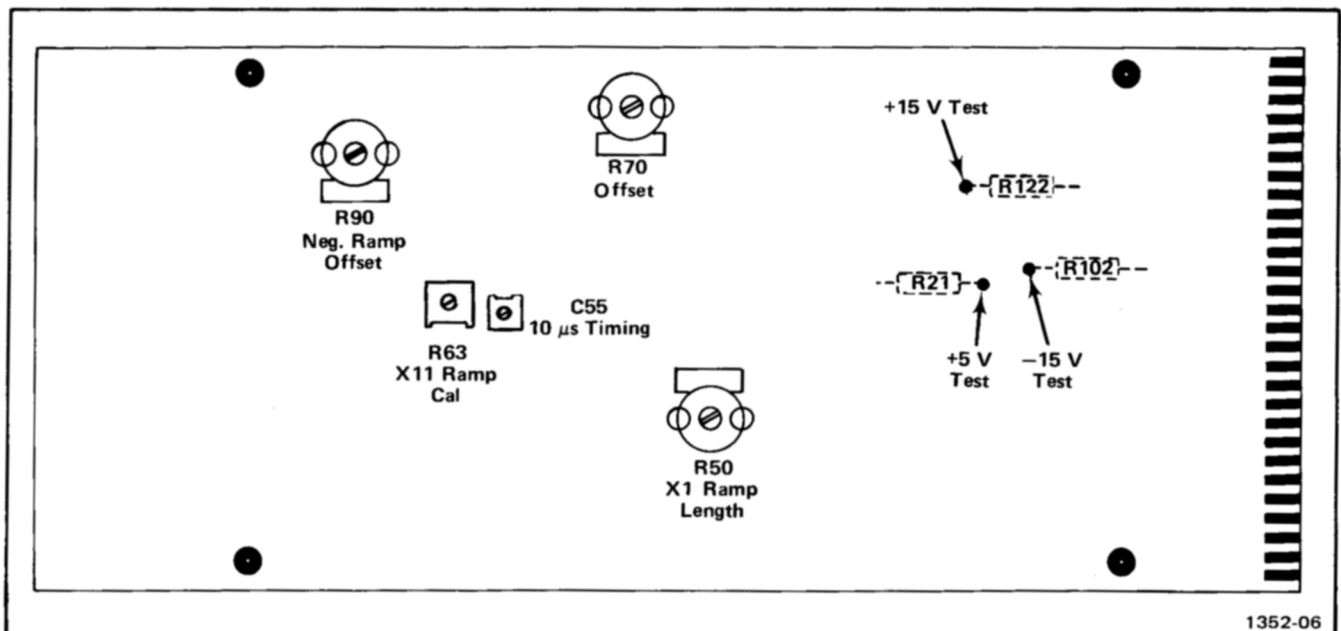

Fig. 3-1. Adjustment and Test Point locations.
a. Connect the dc voltmeter leads to ground and the +5-volt test point. Refer to Fig. 3-1 for test point locations.